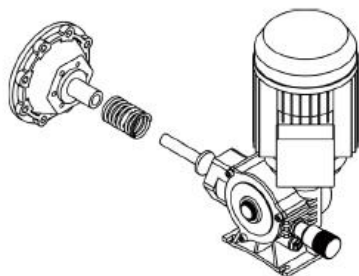

Figure 12
- ◆ After replacement, install the push rod, spring and transition section in sequence. (See figure 12).